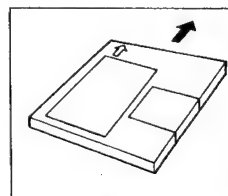

Figure 18
- 3) Be sure to insert the cartridge in the proper direction, following the arrow on the top of the cartridge as shown in Figure 18.